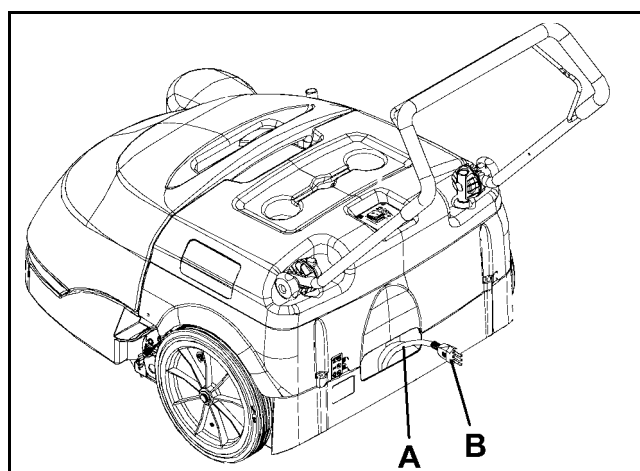

Figure 5
Carefully check the battery charger cable (A, Fig. 5) and the relevant plug (B) for cuts, wear and other damages.